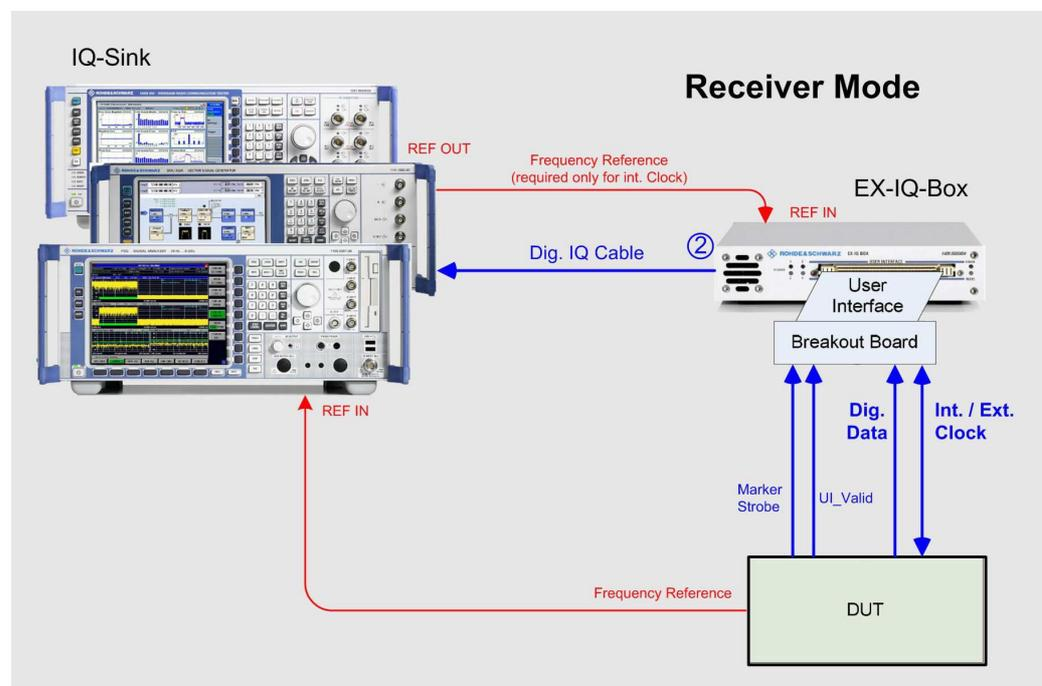

Figure 38: Instruments and signals in receiver mode
Figure 38 shows a recommended hardware setup for the R&S EX-IQ-Box's receiver mode. (The computer with the *DigiConf* control software is not included in these illustrations.)
- ▶ Connect the analyzer, R&S EX-IQ-Box and DUT as shown in Figure 38.